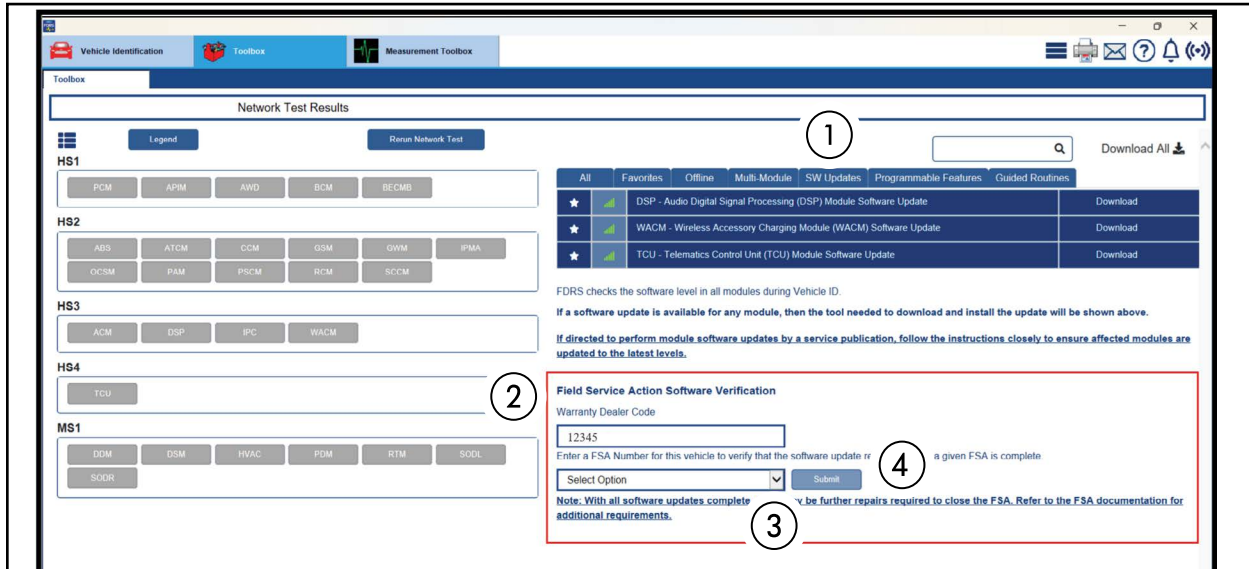

FIGURE 3
15. Select **Submit** (4). See Figure 3.